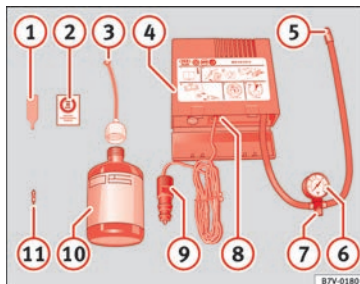

Fig. 95 Standard representation: contents of the anti-puncture kit.
» **Fig. 95:**
Screw the inflator tube »» Fig. 95 ⑤ again and check the pressure on the gauge ⑥.